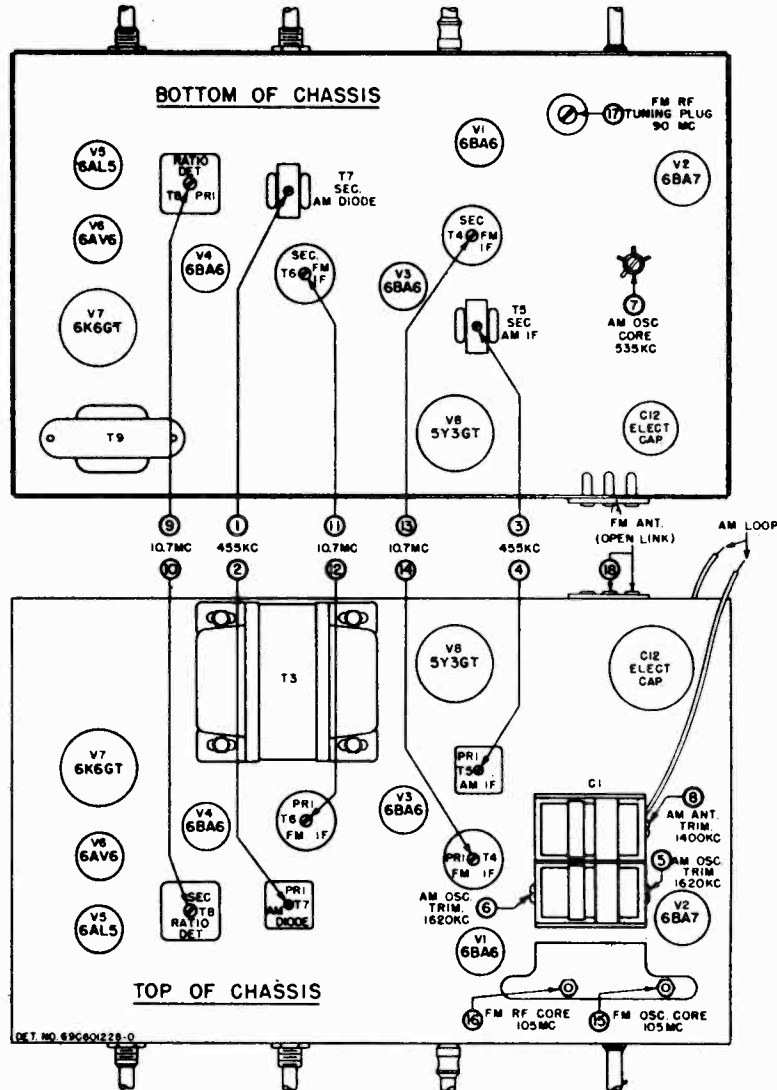

FIGURE 4.
3. Refer to Figure 4 for the location of all alignment trimmers and cores.